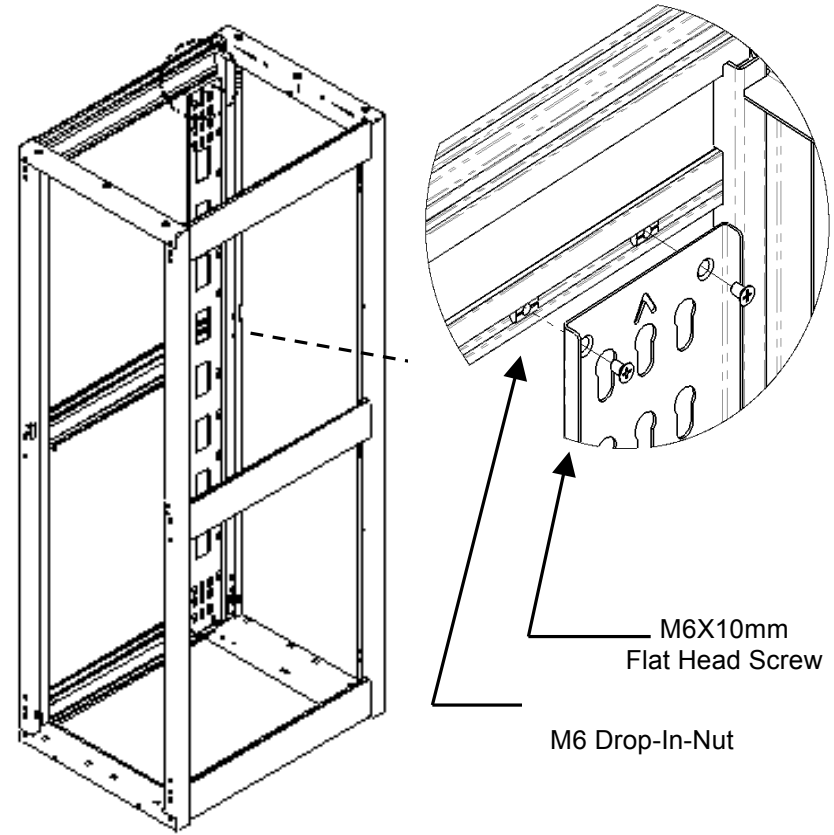

Fig. 2
The PDU Bracket (Fig.1) attaches to the cabinets slides (Fig. 2).
1. Position the PDU Bracket at the desired location along the cabinet slides. The top of the bracket is indicated by a punched arrow (Fig. 2, detail).
2. Insert M6 Drop-in-Nuts in the slides as shown below. Fasten the PDU Bracket using M6 x10mm Flat Head Screws into the Drop-In-Nut (Fig. 2, detail).